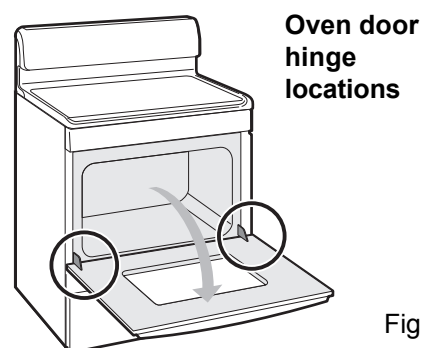

Fig. 1
1. Open oven door completely (horizontal with floor - See Fig. 1).
3. Fully open the oven door (horizontal with floor - See Fig. 1).